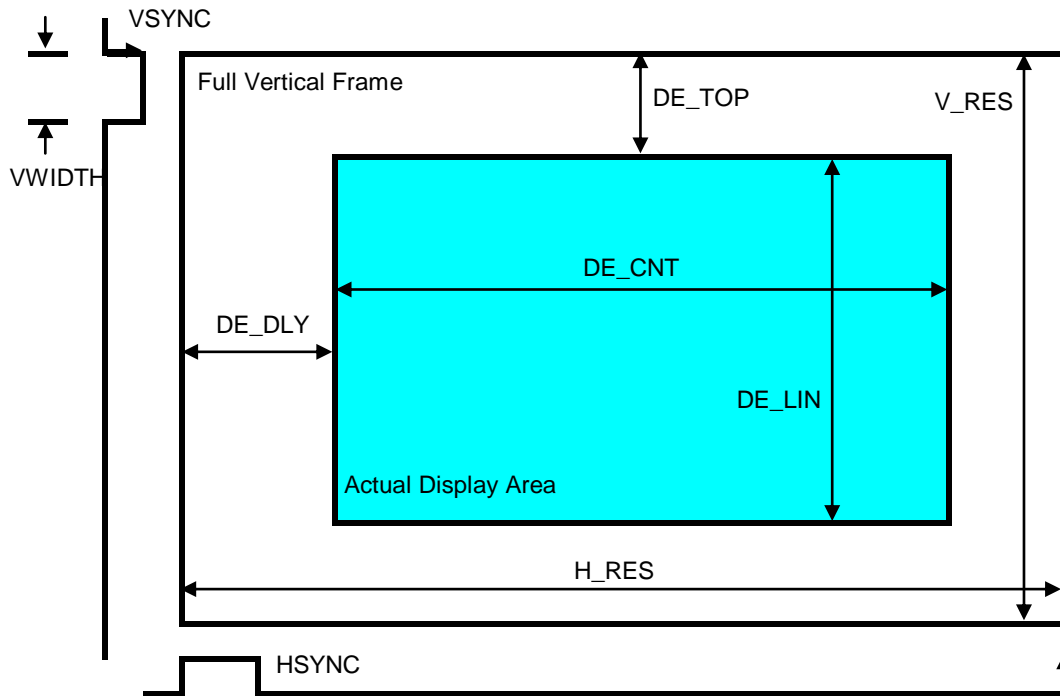

FIGURE 7. DE GENERATOR MEASUREMENTS
The HDMI Transmitter provides an internal Data Enable (DE) generator for use when the attached video source does not provide a DE signal with the other video signals. The DE signal is needed for encoding the TMDS output of the HDMI Transmitter. A DE signal is generated for use by the Transmitter, based on the values in the DE Generator registers and the arrival times of the HSYNC and VSYNC pulses from the video source. This DE signal is included in the control data sent to the HDMI Receiver across the link. The DE Generator registers are used only for DE generation. The registers are shown diagrammatically in Figure 7. The vertical sync pulse (VSYNC) occurs in the top area of the frame, before the active video area. The active (leading) edge is shown with an arrow. The horizontal sync pulse (HSYNC) occurs every line before the active video area during the DE_DLY time. The active (leading) edge of HSYNC is shown with an arrow.
Figure 7 shows the HWIDTH and VWIDTH dimensions relative to the complete frame time.